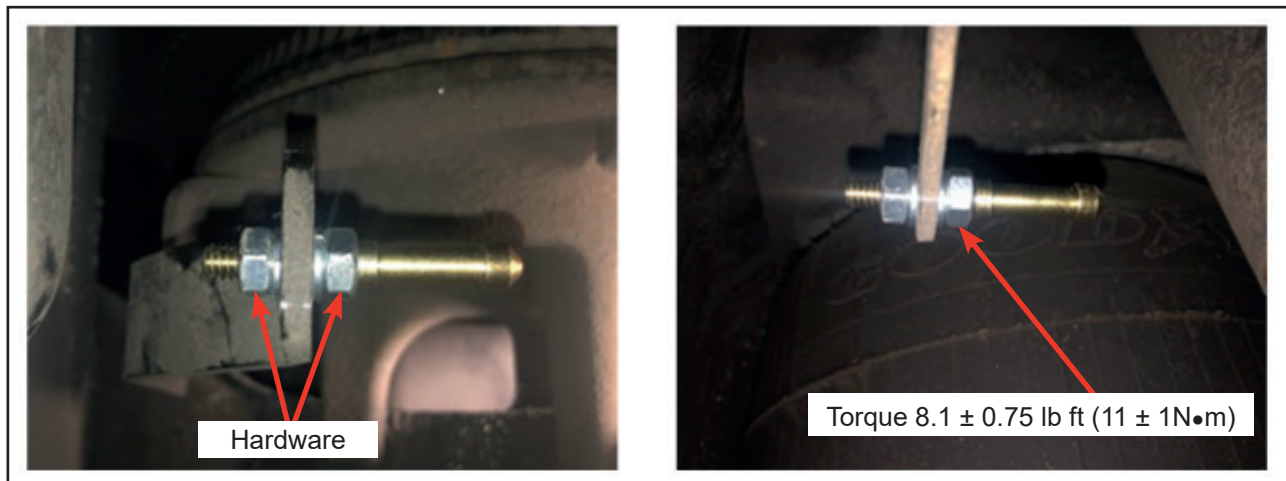

Figure 23 - Tightening the hardware
- 1.48. Secure top and bottom hardware and torque the nuts to  $8.1 \pm 0.75$  lb ft ( $11 \pm 1$  N•m) (See Figure 23).